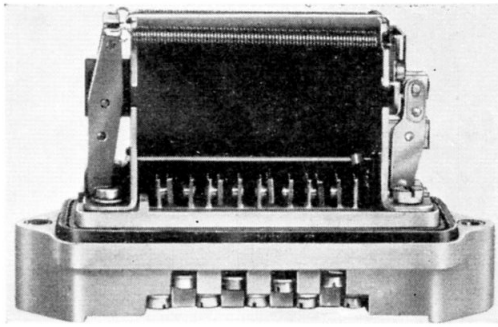
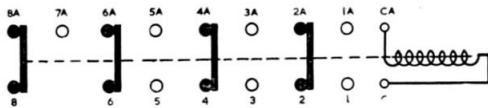

Fig. 2. Switch with cover removed
Fig. 3. Circuit diagram
3. The operating mechanism is shown in *fig. 2*; *fig. 3* indicates the terminal markings, and shows the unoperated position, with the even-numbered contacts closed. When the